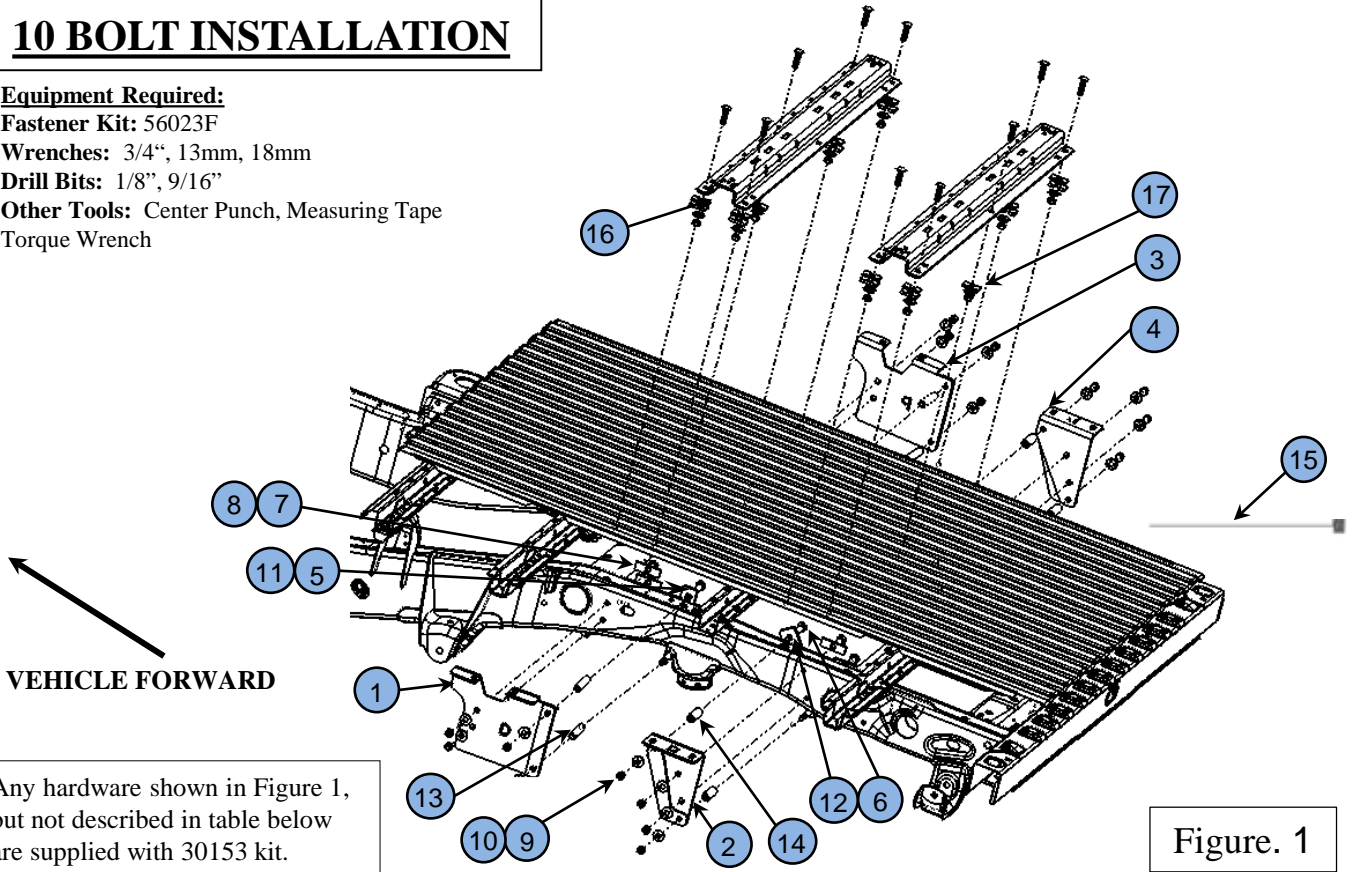

Figure. 1
1. Place the front mounting rail in the bed of the truck. Using a tape measure, center the rail on the floor of the truck bed and locate the proper distance from the rear of the rail to the back edge of truck bed as illustrated on figure (3). Choose the correct dimensions from figure (3) per Standard/Long truck bed.
3. Loosely install the Front frame brackets (1) and (3) using appropriate hardware and hand tighten. (See figures 1, 4,7) **NOTE:** If the truck has helper spring brackets, refer to additional instructions on page 8 for installing frame brackets.
**DRIVER FRONT BRACKET (1):**
A. Using two 1/2" fishwires (15) provided, install two 1/2" x 1.75 carriage bolts (7) and 1"x3" blocks (8) using slot (Inside frame holes on Driver side are blocked by fuel tank and are not accessible) on outside of the frame. Run the fishwire going in from this slot and come out of the bolt holes as shown in figure (4). Keep both fishwires on the bolt until the bracket is installed. Place the conical washer (9) on the carriage bolt and secure with nut (10).
B. Now position the Front mounting block (5) on driver side against inside of the frame. While positioning front mounting block, the brake line bracket will be in the way. Loosen the two-brake line support bracket bolts (M8) as shown in figure (5), creating enough space for mounting block to pass through, until closely aligning mounting block slots with frame bracket holes. Now install two 1/2" x 5.5 carriage bolts (11) running from inside of frame through mounting block, 1/2"x3.5 Tube Spacer (13) and frame bracket as shown in figures (1 & 4). Place the conical washer on the carriage bolt and secure with the nut. Fasten the brake line bracket bolts.
**PASSENGER FRONT BRACKET (3):**
C. Following the similar procedure as on the driver's side, using two 1/2" fishwires provided, install two 1/2" x 1.75 carriage bolts (7) and 1"x3" blocks (8) using larger top hole on inside of frame as shown in figure (8). Run the fishwire from this hole and coming out of the carriage bolt hole. Place the conical washer and secure with the nut.
D. Now position the front mounting block on passenger side (5) against inside of the frame aligning slots with frame bracket holes. Install two 1/2" x 5.5 carriage bolts (11) running from inside of frame through mounting block, 1/2"x3.5 Tube Spacer (13) and frame bracket as shown in figures (1 & 7). Place the conical washer on the carriage bolt and secure with the nut.
6. Reposition the front mount rail over the enlarged holes. Install the front rail using carriage bolts supplied in 30153 kit. Ensure 5/16" U-shaped spacer supplied in 30153 kit and 1/4" U-shaped spacer supplied in 56023 kit are installed as shown in figures (2.a and 2.b). Attach the 1/2" conical washers and hex nuts on bottom side of the frame brackets (1) and (3). Install center bolt using the supplied 1"x2" block (17) on bottom side of bed floor. Hand tighten all fasteners.
8. Loosely install the Rear frame brackets (2) and (4) using appropriate hardware and hand tighten. (See figures 1,4,7)
**DRIVER REAR BRACKET (2):**
- A. Using two 1/2" fishwires provided, install two 1/2" x 1.75 carriage bolts (7) and 1"x3" blocks (8) using larger top hole on inside of frame as shown in the figure (6). Run the fishwire from this hole and come out of the bolt holes. Place the conical washer (9) on the carriage bolt and secure with nut (10).
- B. Now position the rear mounting block (6) against inside of the frame. Rear mounting blocks will be tilted in position. While positioning rear mounting block, wire harness will be coming in the way. Remove the wire harness retainers (tree style) with appropriate tool from the frame as shown in figure (6). Now install two 1/2" x 4.5 carriage bolts (12) running from inside of frame through rear mounting block, 1/2"x2.5 Tube Spacer (14) and frame bracket as shown in figure (7). Place the conical washer on the carriage bolt and secure with the nut.**PASSENGER REAR BRACKET (4):**
- C. Following the similar procedure as on the driver's side, using two 1/2" fishwires provided, install two 1/2" x 1.75 carriage bolts (7) and 1"x3" blocks (8) using larger top hole on inside of frame as shown in the figure (9). Run the fishwire from this hole and come out of the carriage bolt hole. Place the conical washer and secure with the nut.
- D. Position the rear mounting block (6) against inside of the frame aligning slots with frame bracket holes. Now install two 1/2" x 4.5 carriage bolts (12) running from inside of frame through the mounting block, 1/2"x2.5 Tube Spacer (14) and frame bracket as shown in figure (7). Place the conical washer on the carriage bolt and secure with the nut.
10. Mark and center punch the holes in rear mounting rail as per figure (3). Move the rear rail out of the way and drill with a 1/8" drill bit. **CAUTION: When drilling holes through the bed be sure what is below the truck bed in those locations.**